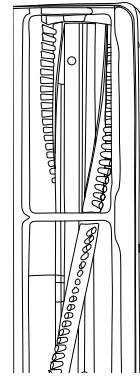

Fig. 2
6. Replace the bottom plate by hooking the front end of the plate into the two ribs on the front end of the brush head housing. (Fig. 2) Press the bottom plate into place by sliding the clips away from each other.